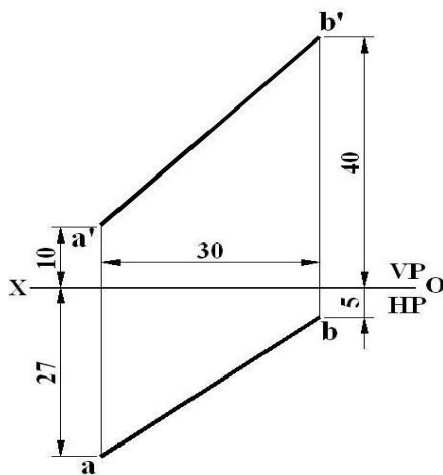

Figure 3.11
11. Orthographic projection of a line is given in **Figure 3.11**. Determine its true length and inclinations with the HP and VP using,